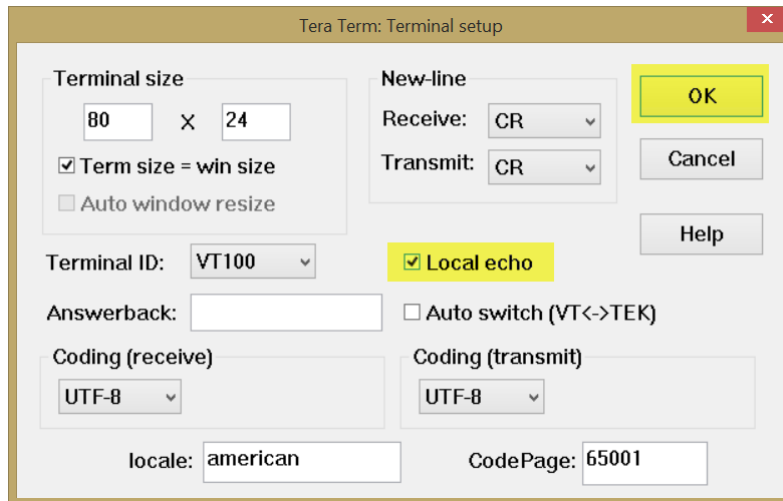

FIGURE E-3. Terminal Configuration
- Select **Terminal** from the drop-down menu list in **Setup**. The SR50A/T does not echo characters sent to it. To see what you're typing, **Local Echo** needs to be switched on by checking the box next to **Local Echo** (FIGURE E-3). Leave everything else at the default settings. Click on the **OK** button to save the settings or the **Cancel** button to simply exit.